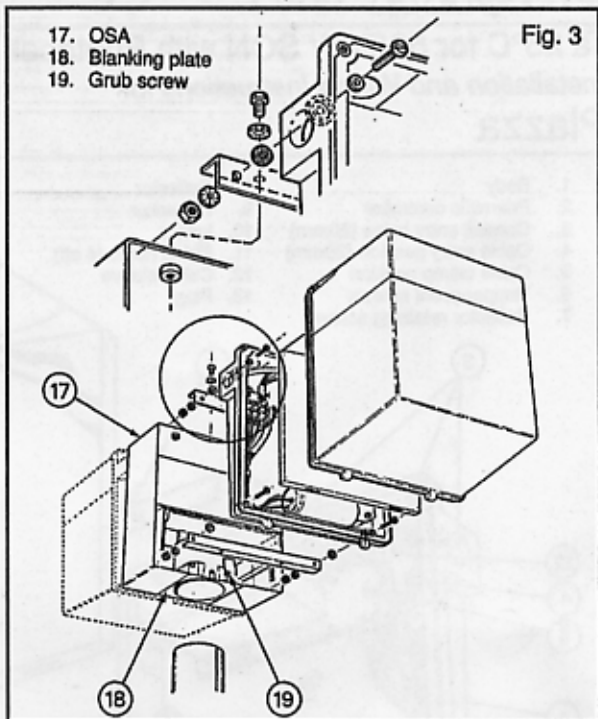

Fig. 3
1. Mount the OSA onto a suitable column (Ø76mm (or Ø60mm for Scandinavian models) and secure using the grub screws (see Figure 3).
10. Close up opposite end of OSA with cover plate as item 6.